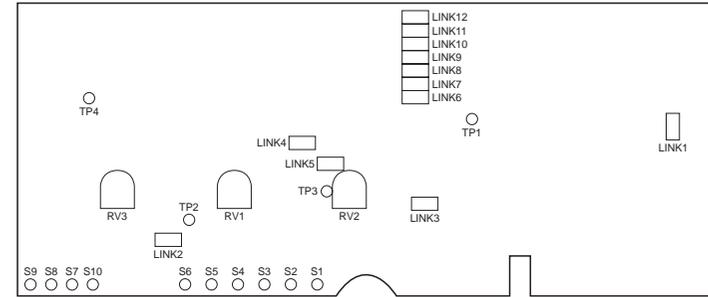

Figure 4 T800-30-0000 Link Location - Top Side
- The T800-30-0000 PCB links are set for UHF operation and 512 baud data rate. For the location of the PCB links refer to Figure 4.